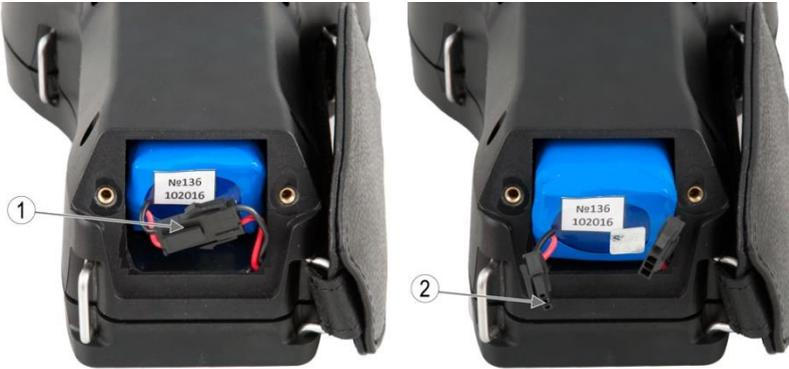

Fig. 40
6. Open the contact terminal (item 1 Figure 40), pressing the clip (item 2 Figure 40).